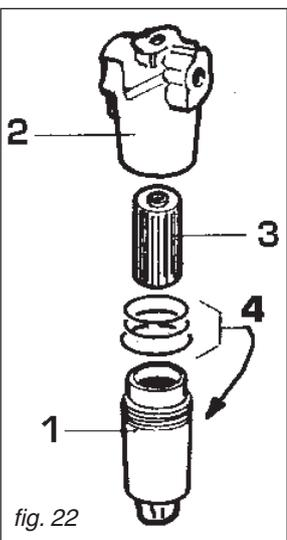

fig. 22
**Replacement of the filter on the delivery line** (before the distributor) fig. 22